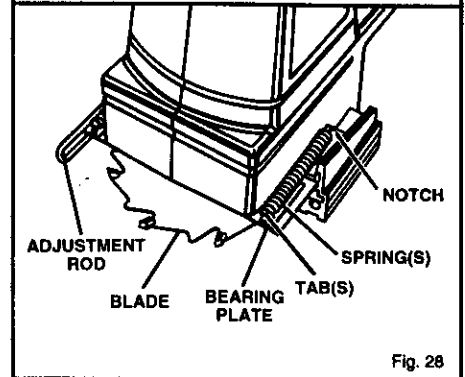

Fig. 28
6. Using a pair of needle nose pliers, stretch and release springs from tabs on bearing plate. See Figure 28.
17. Replace rear base assembly. Position adjustment rod in its proper place as shown in figure 28.